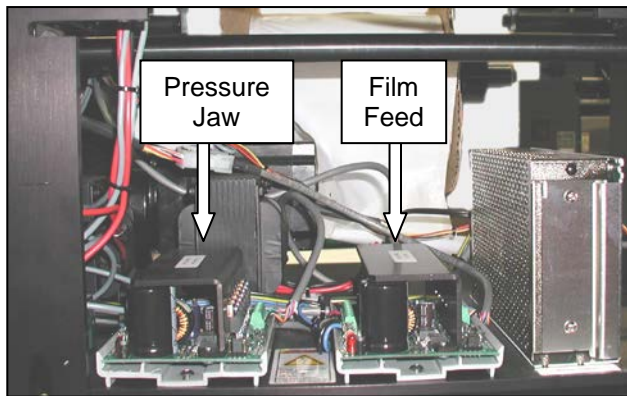

Figure 3-7. TM4500 Drive locations
2. There are two identical TM4500 drives, the Pressure Jaw motor controller is on the left and the Film Feed motor controller is on the right (Figure 3-7).